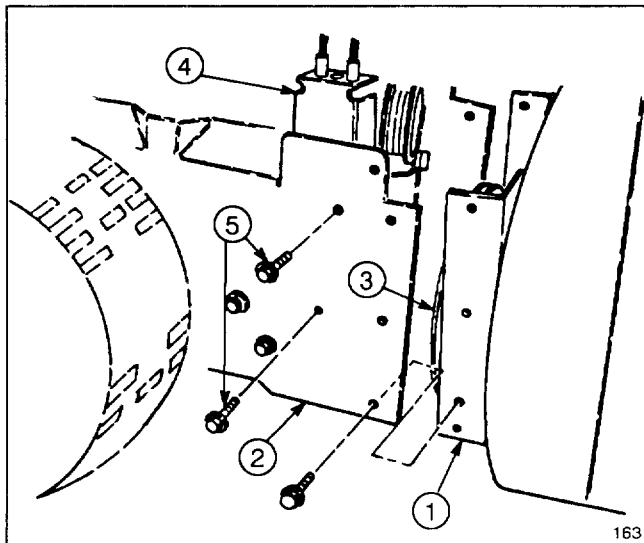

Figure 1
1. Remove (2) flange head capscrews securing idler pulley assembly to engine frame. Remove idler pulley assembly.
2. Align auger housing and engine frame mounting holes (Fig. 1).
4. Secure auger housing to engine frame with (6) 5/16-18x3/4" lg. flange head capscrews.